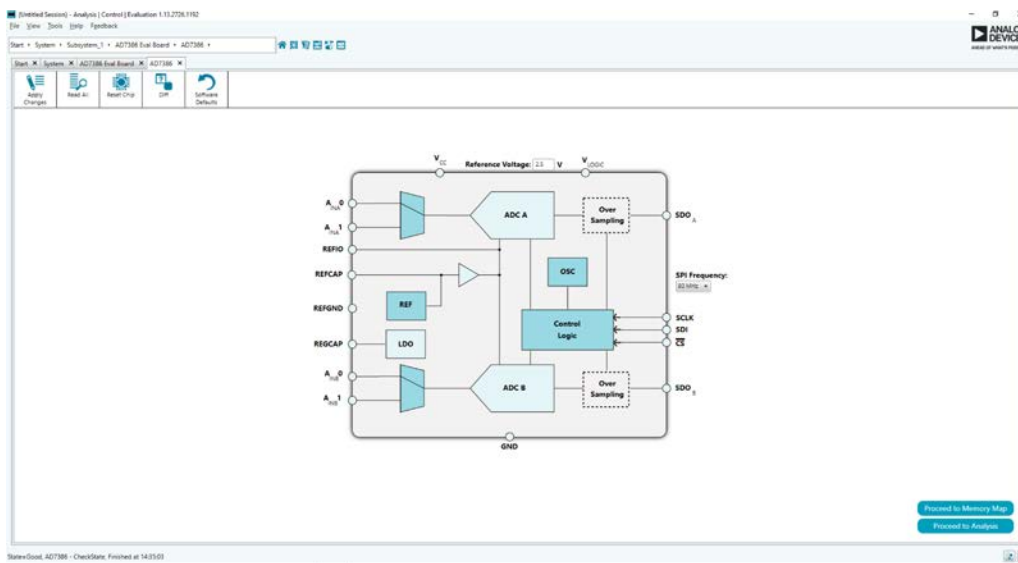

Figure 14. Chip View
3. Double-click the **AD7386** chip icon to open the chip view window (see Figure 14).
Click the AD7386 chip icon in the board view to open the window shown in Figure 14. The chip view shows the configurable block diagram of the AD7386.